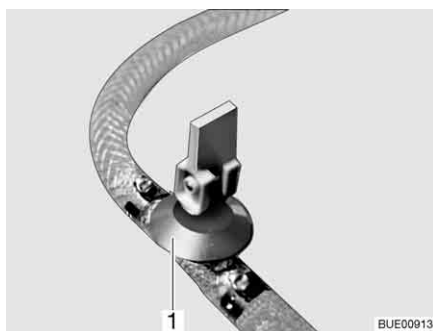
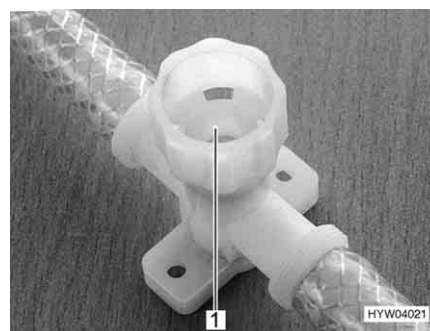

Fig. 210 Drain cock (with rocking lever)
Fig. 211 Drain cock (with twist cap)
- Close all drain cocks. To do this, position the drain cock's rocking lever (Fig. 210,1) horizontally or turn the drain cock's cap (Fig. 211,1) in a clockwise direction.